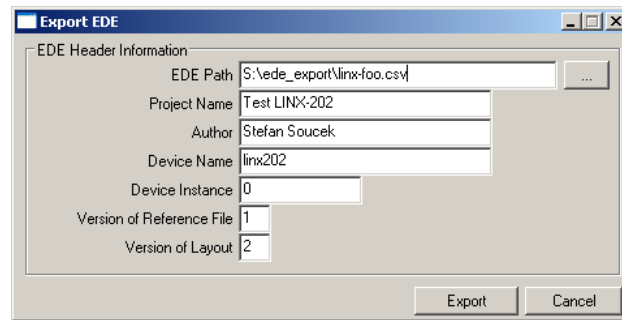

Figure 109: EDE Export Dialog.
2. Right-click and select **Export EDE ...** in the context menu. This opens the EDE export dialog to enter the EDE header information as shown in Figure 109.